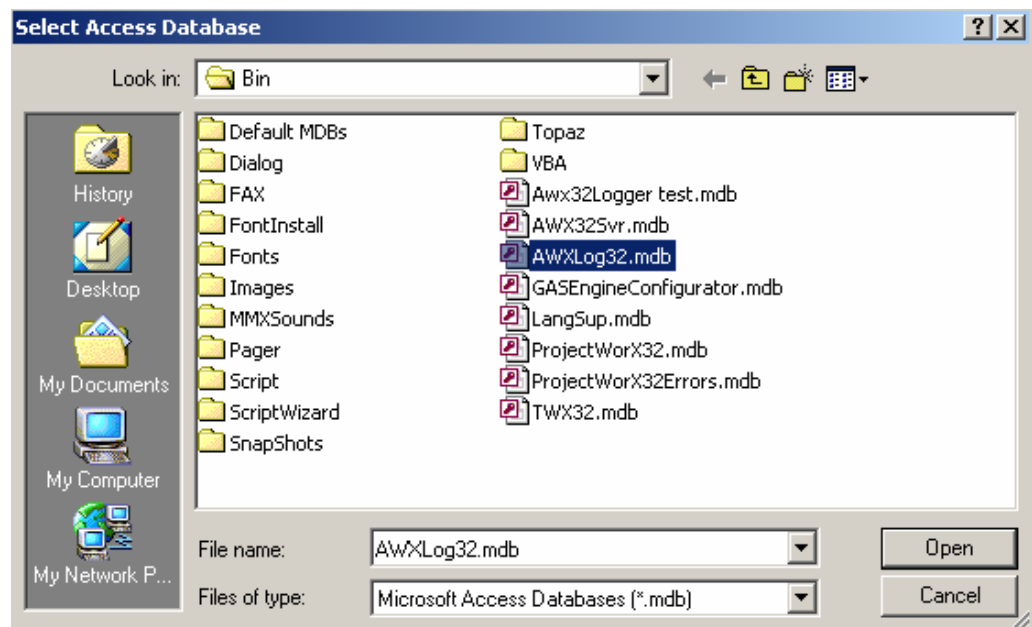

Figure A.6. Selecting the Operator Comments Database
4. Click the ... button and select the **AWXLog32.mdb** file from the bin directory, as shown in **Figure A.6**. Click the **Open** button.